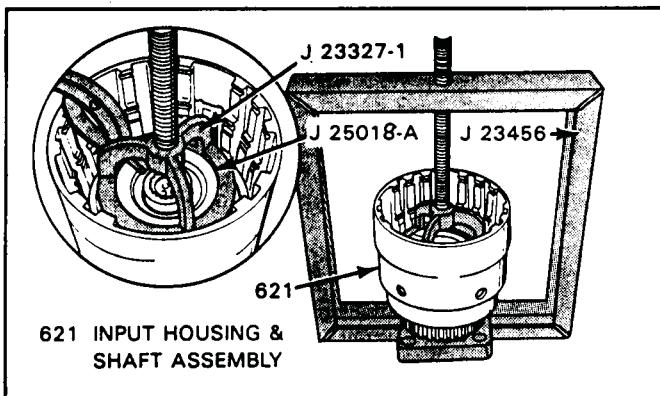

Figure 106
7. Install the proper spring compressor, as shown in Figure 106, and compress the overrun clutch return spring.